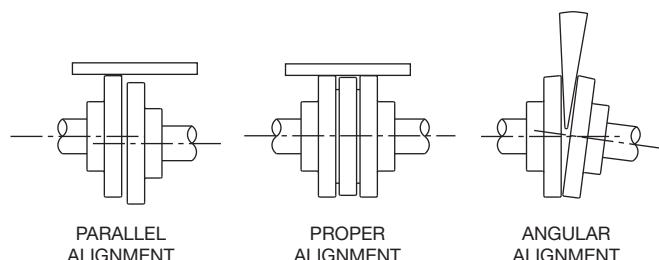

Figure 4
8. Alignment Procedure (see Figure 4)